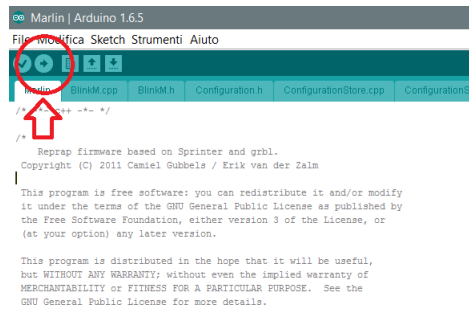

Figure 1: Upload button
3. Extracted the firmware move into the directory named *Marlin*. Here you will find the file ***Marlin.ino***. Open it with the Arduino IDE installed at step 1 and (after setting the right com port and board, and plugged in the usb) you are able to upload the program by the button in Fig.1.